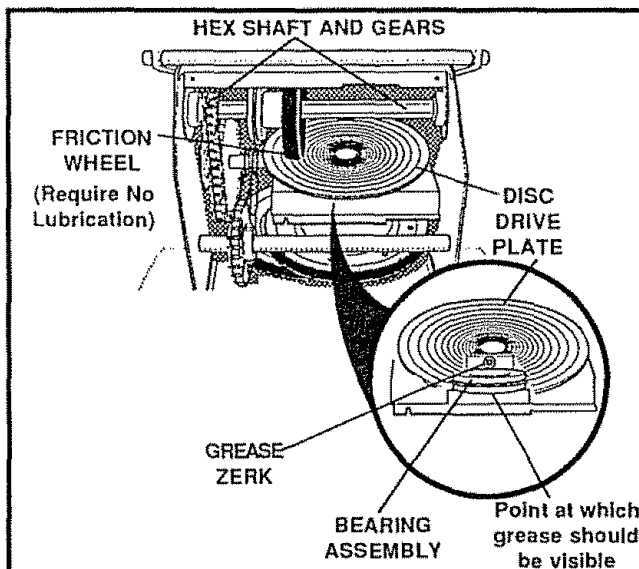

FIG. 18
- Disc Drive Plate - Using a hand grease gun, lubricate with a Hi Temp EP Moly grease, zerk located beneath the disc drive plate (See Fig 18 inset) every 25 hours and at the end of the season and/or before storage. To grease zerk, turn disc drive plate clockwise by hand until zerk is clearly visible at front center. DO NOT overfill or allow grease to come in contact with the disc drive plate or friction wheel or
- Hex Shaft and Gears - Hex shaft and gears require no lubrication. All bearings and bushings are lifetime lubricated and require no maintenance (See Fig 18).
NOTE: For storage, the hex shaft and gears should be wiped with 5W-30 motor oil to prevent rusting (See Fig 18).